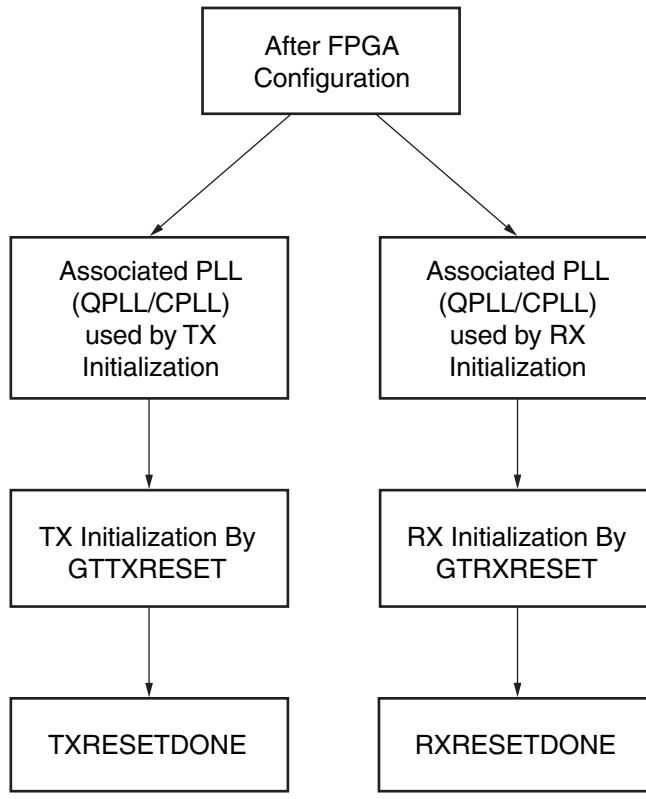

Figure 2-12: GTX/GTH Transceiver Initialization Overview
The GTX/GTH transceiver must be initialized after FPGA device power-up and configuration before it can be used. The GTX/GTH transmitter (TX) and receiver (RX) can be initialized independently and in parallel as shown in Figure 2-12. The GTX/GTH transceiver TX and RX initialization comprises two steps: